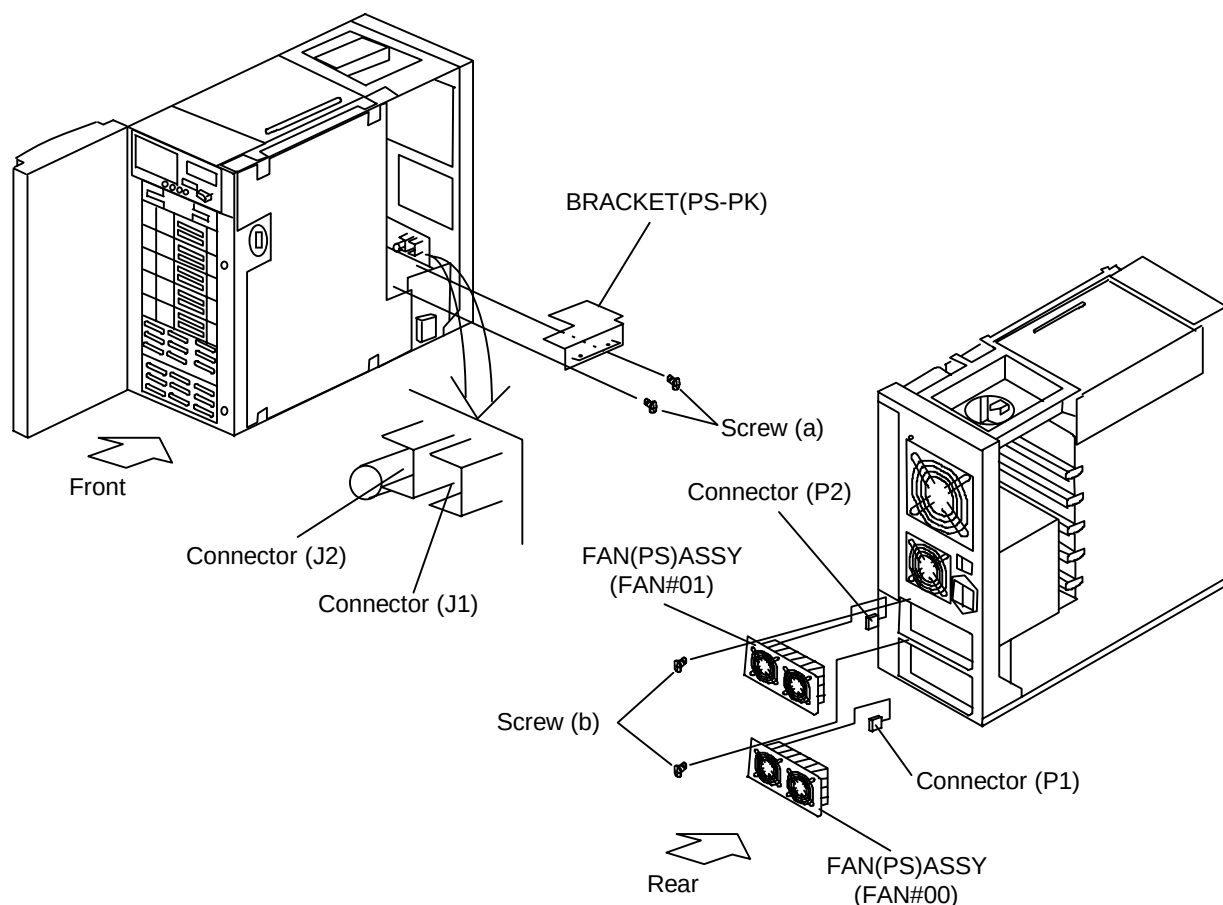

Figure 12.1 Replacing Fan(PS) ASSY
12. Replacing Fan(PS) ASSY (See Figure 12.1.)